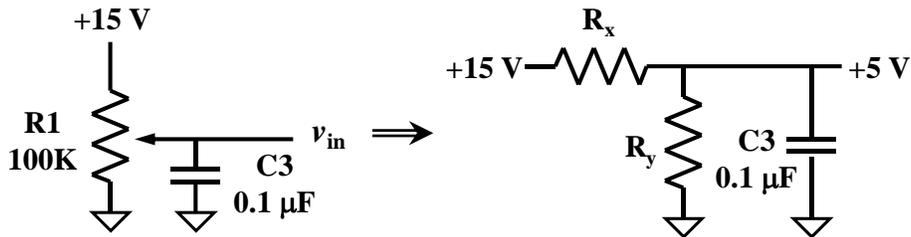

Fig. 8. Voltage divider and low-pass filter in circuit 5.
3. Circuit 5 uses a potentiometer as a voltage divider to derive 5 V dc from 15 V dc.  $R_x$  is on one side of the wiper and  $R_y$  is on the other, as shown in Fig. 8. C3 creates a low-pass filter that attenuates some of the interfering signals that can appear on the +15 V power supply.